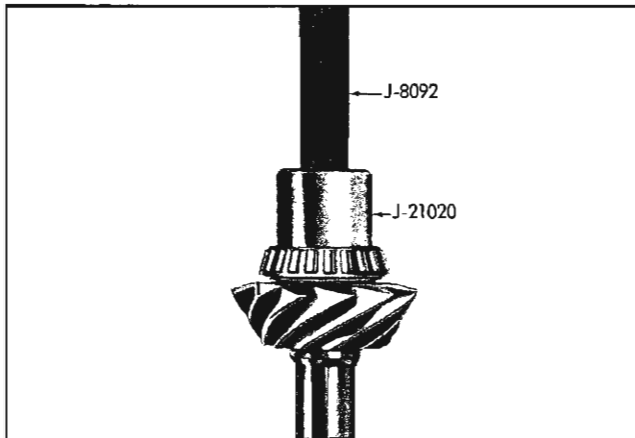

Fig. 4-43 Tool Positioned to Install Rear Pinion Bearing
1. Press on rear pinion bearing using adapter J-21020 and J-8092 handle (Fig. 4-43).